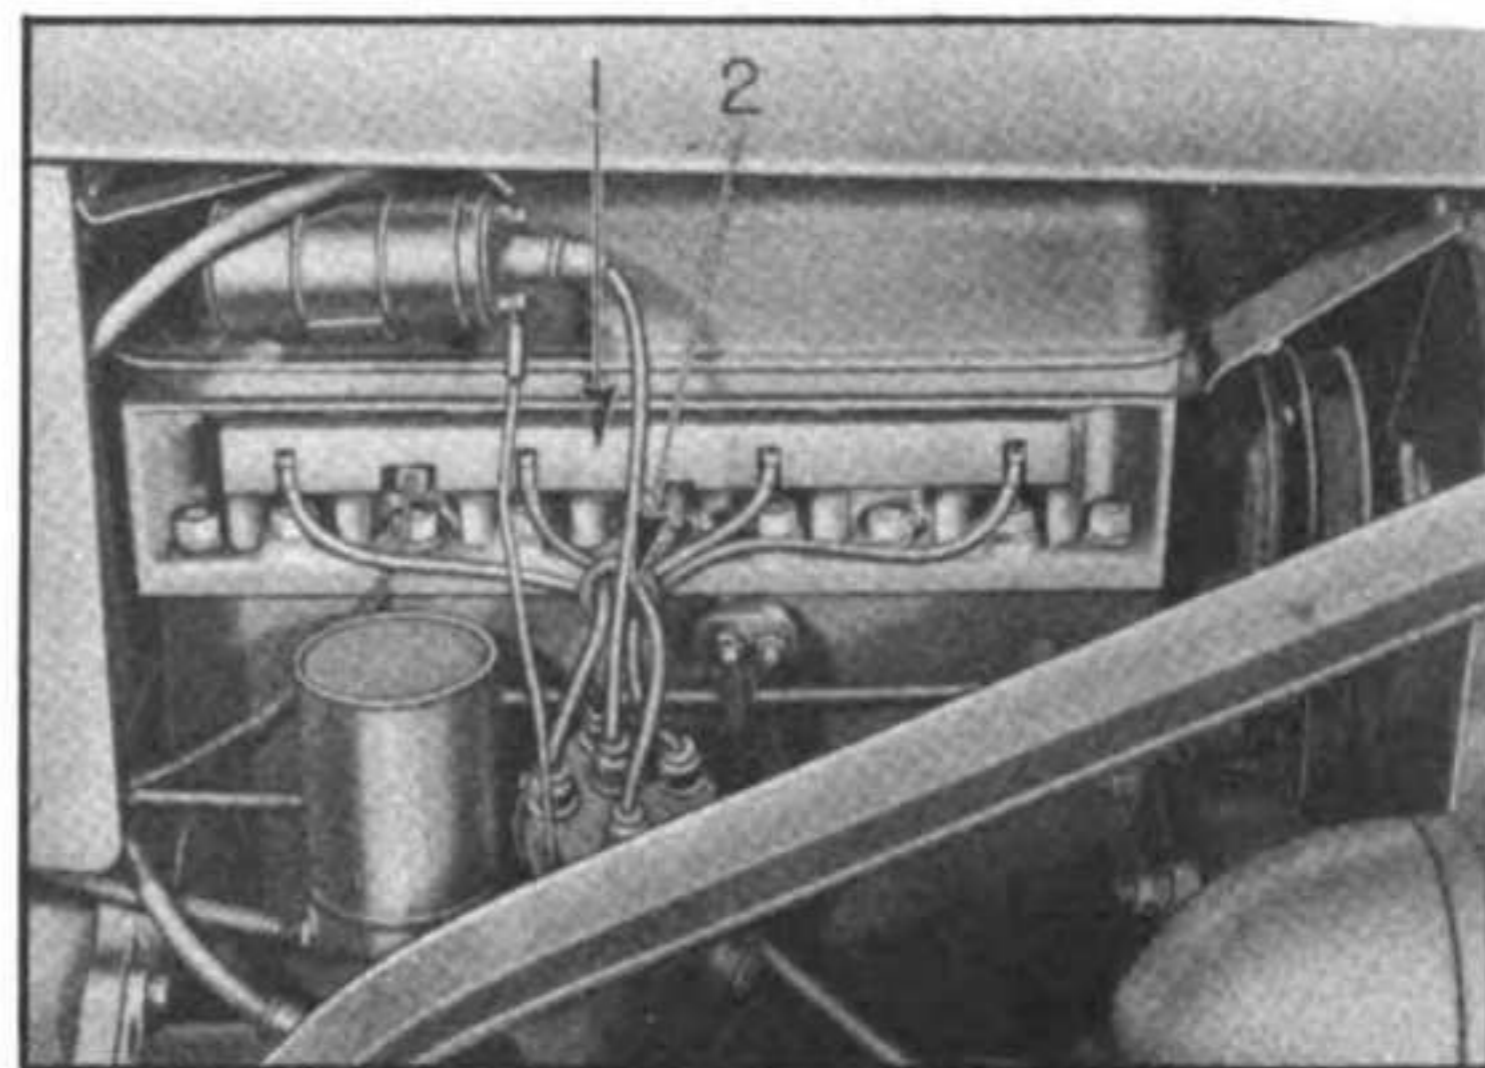

Figure 6 – Right Side of Engine
(3) **IGNITION CABLE HOLDER:** The ignition cable holder (Figure 6), which fits over the spark plug ends, is provided to prevent the cable terminal shells from "shorting out" on the push rod guides of the engine. The holder must be kept in place at all times. Also, see that the metal spark plug cover is in place to aid in preventing dirt and moisture from collecting around the cables and plugs.